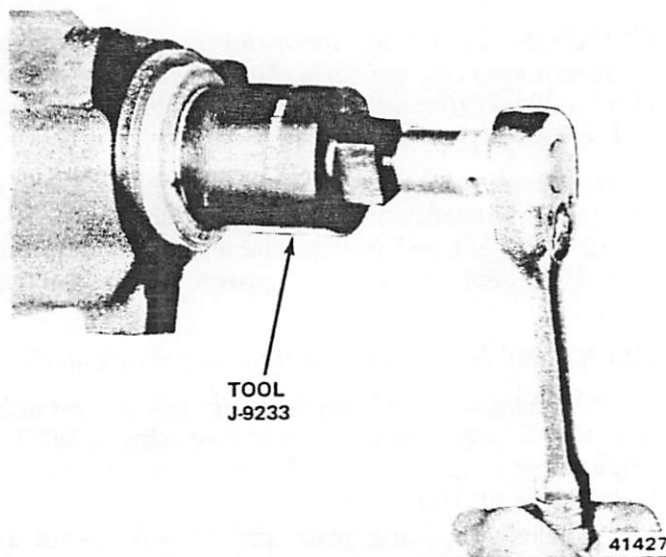

Fig. 2F-27 Pinion Seal Removal
(9) Inspect seal surface of yoke. If surface is damaged or grooved, replace yoke.
(10) Remove pinion seal using Tool J-9233 (fig. 2F-27).